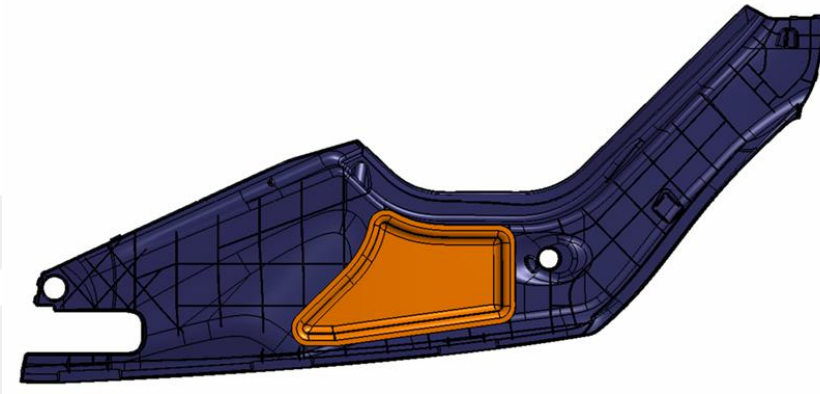

Figure 1 (acoustic absorber highlighted)
2. Inspect the apron for an acoustic absorber (Figure 1).